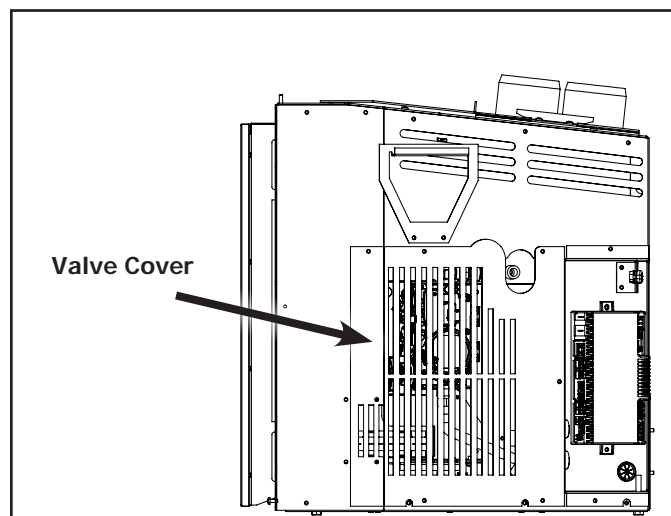

Figure 24: Valve Cover.
The valve cover located on the right side (Figure 24) needs to be removed to gain full access to the gas valve when converting or servicing the valve.
- Use a T-20 screwdriver to remove the eight screws that hold down the valve cover shown in Fig. 24.